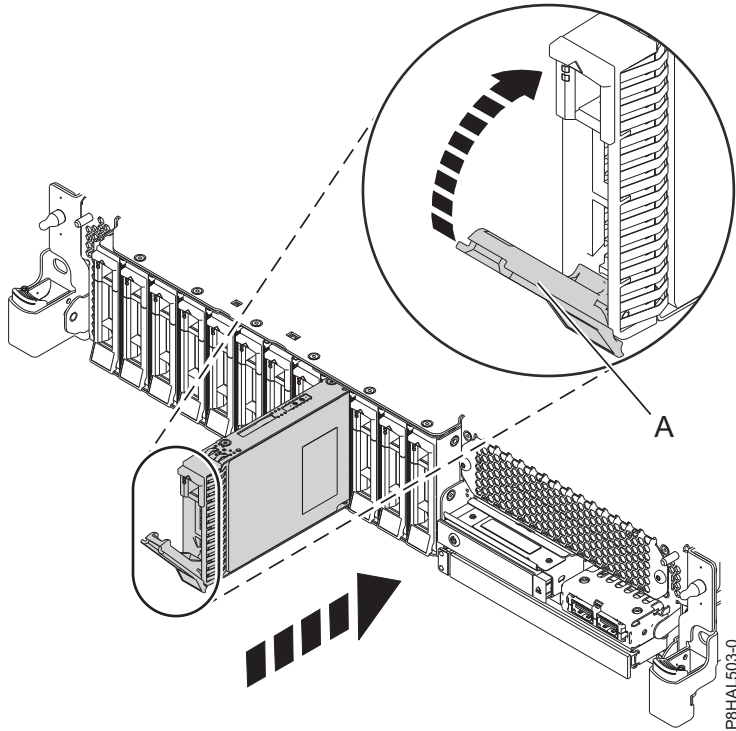
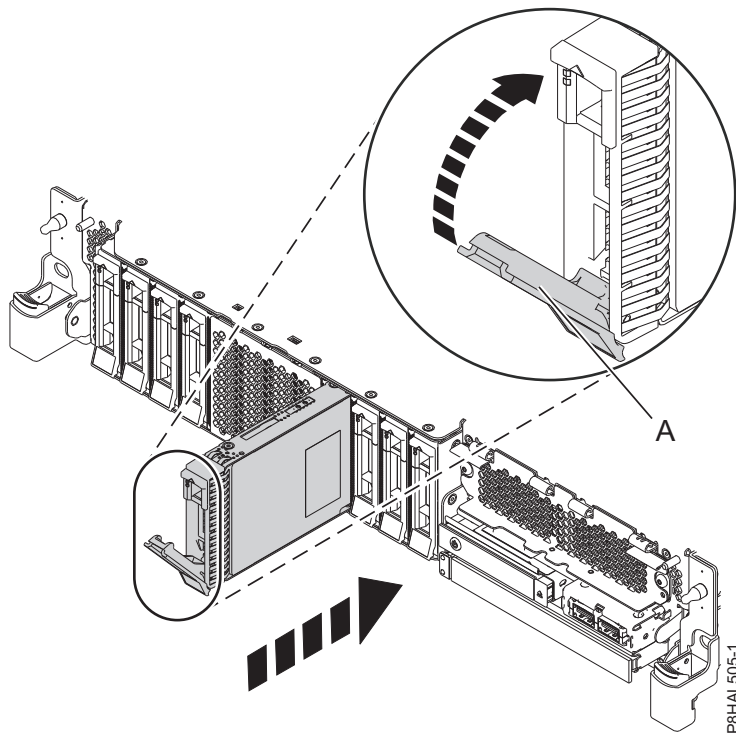

Figure 78. Replacing a disk drive in a base function system
Figure 79. Replacing a disk drive in an expanded function system
4. Unlock the drive bay handle (**A**) by pressing it and pulling it out toward you. If the handle is not all the way out, the drive does not slide into the system. See Figure 78 on page 80 and Figure 79 on page 80.
9. When the identify LED turns on solid, slide the drive all the way into the system, and push in the drive handle (**A**) until it locks, as shown in Figure 78 on page 80 and Figure 79 on page 80.